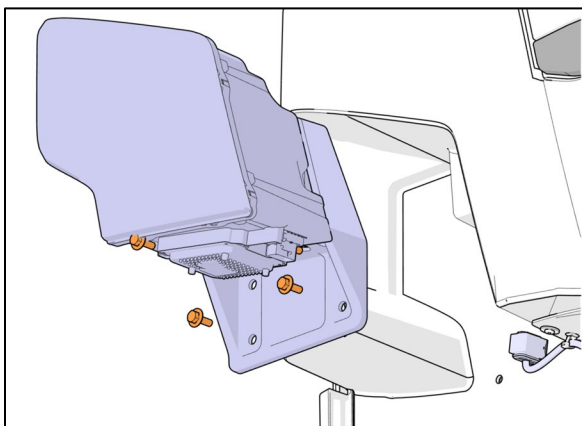

FIGURE 94
5. Unscrew six (6) nuts (Figure 94) and separate the headlamp module from the support.